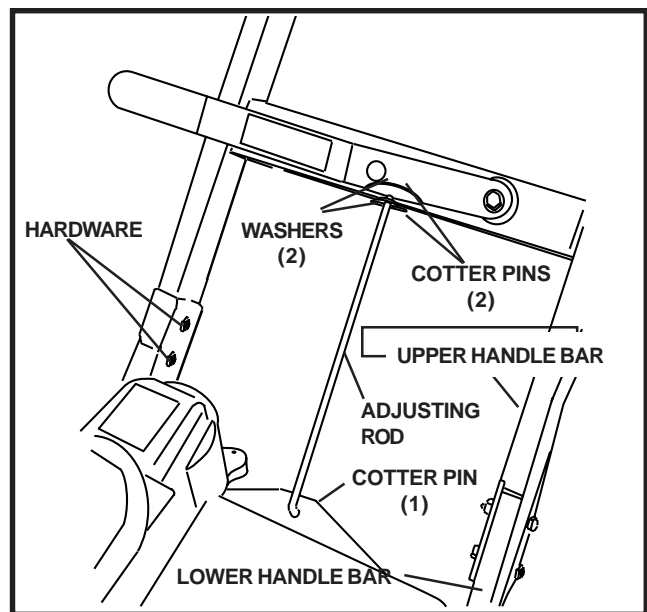

FIGURE 1
4. Using four (4) screws, flat washers and nuts attach the upper handle bar assembly to lower handle bar assembly. See Figure 1.
5. Attach the position adjusting rod to bracket on the lower and upper handle bar assemblies. See Figure 1.